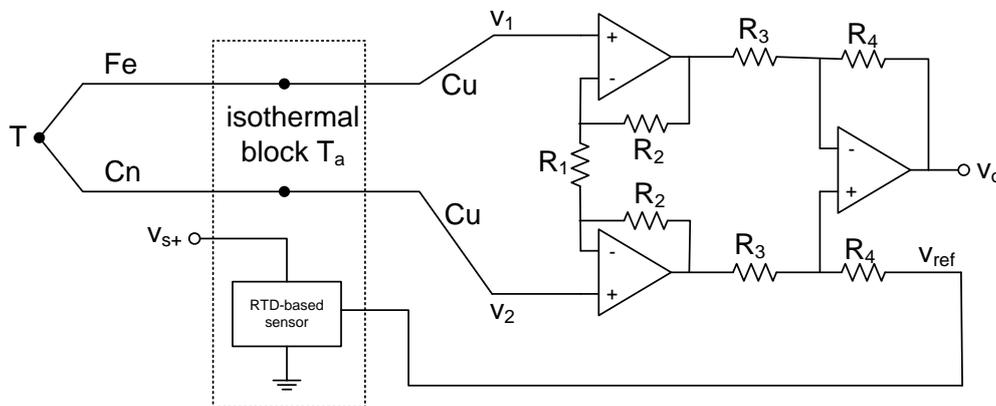
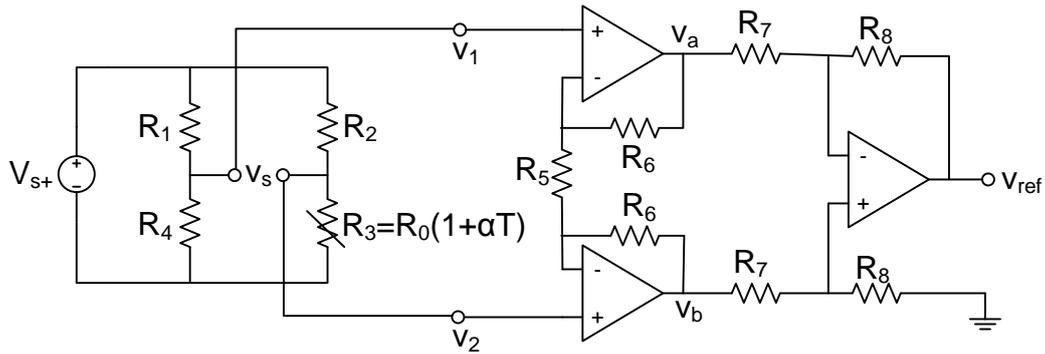

Figure 5: Compensation with a RTD-based sensor and instrumentation amplifier.
Figure 6: Implementation of “RTD-based sensor” block of Figure 5.
The thermocouple in Figure 5 contains a reference junction compensation based on a RTD temperature sensor. The output voltage of this sensor ( $v_{ref}$ ) is given by the following transfer function:  $v_{ref} = 10mV/^{\circ}C \cdot T_a$  with  $T_a$  the environmental temperature at the reference junction. The output of the reference temperature sensor is connected to the reference input of the instrumentation amplifier. It holds for this instrumentation amplifier:
- (5p) (a) There are three important laws that you can use when analysing thermocouples, namely the law of the homogeneous circuits, the law of intermediate metals, and the law of intermediate temperatures. Show using these laws that the voltage across the thermocouple shown in Figure 5 is equal to:
- (5p) (c) The circuit shown in Figure 6 is used to generate the reference voltage  $v_{ref}$  for the thermocouple sensor shown in Figure 5. In other words, Figure 6 shows the internals of the block “RTD-based sensor” in Figure 5. Assume that the supply voltage  $v_{s+}$  is equal to 5 V. Assume further that resistor  $R_3$  is a temperature dependent resistor (RTD) of type PT100. Its relation between temperature and resistance (transfer function) can be approximated with the following linear equation:  $R_3(T) = R_0(1 + \alpha T)$ , with  $R_0$  equal to  $100\Omega$  and  $\alpha = 0.004/^\circ\text{C}$ . Assume also that  $R_4 = R_5 = R_6 = R_7 = R_8 = R_0$  and  $R_1 = R_2 = k \cdot R_0$ . What resistance should the resistor  $R_2$  have to ensure that the “RTD-based sensor” has a sensitivity of  $10\text{mV}/^\circ\text{C}$ ?